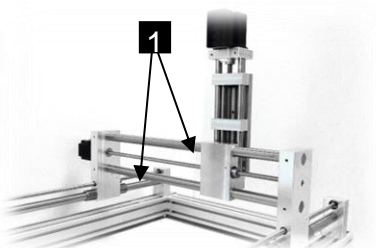

Fig. 30: Linear guide the Y-axis
- 4 Grease the linear guides of the X-axis (Fig. 30/1) well using low-friction grease soaked cloth DIN 61650 or alternatively apply the grease with a suitable brush.